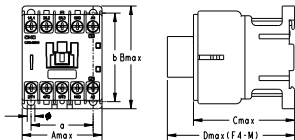

Figure 1 Installation and overall dimensions of CJX2s-M06~M16 series AC contactor
4.1 See Figure 1 and Table 2 for the installation and overall dimensions of CJX2s-M06~M16 series AC contactors.